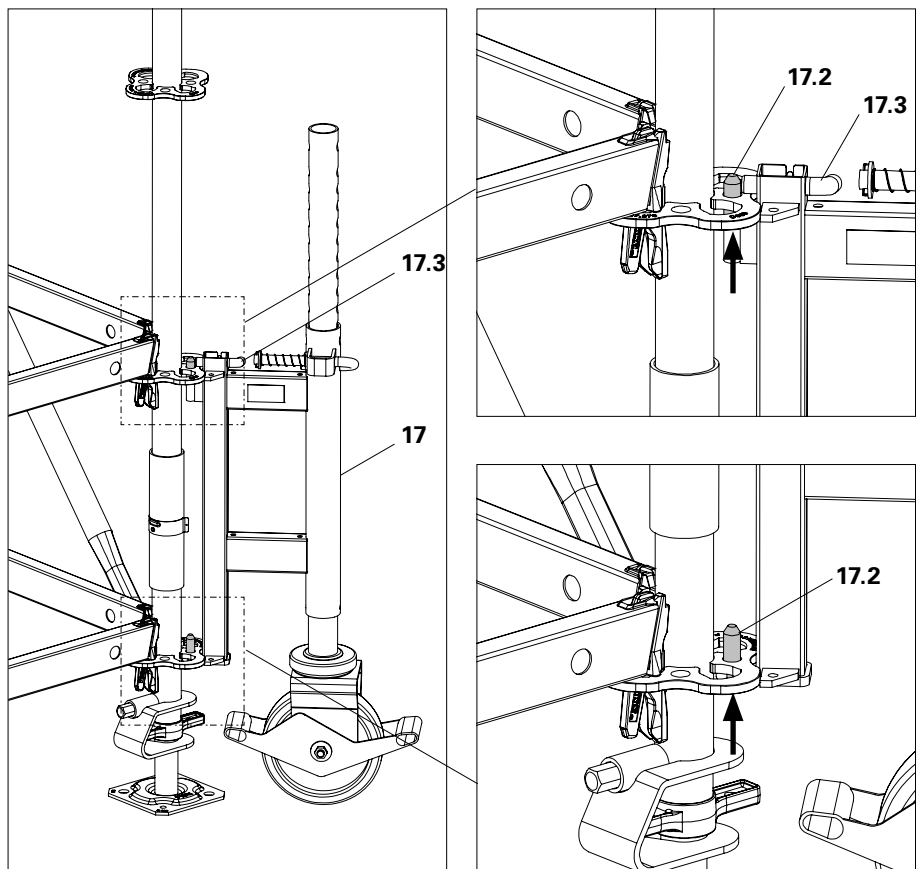

Fig. B1.04
1. Insert Transportation Wheels with Spigots (17.2) from below into the rosettes. Insert the spigot first in the bottom rosette and then in the top rosette. Firmly hold the Transportation Wheels. (Fig. B1.04)